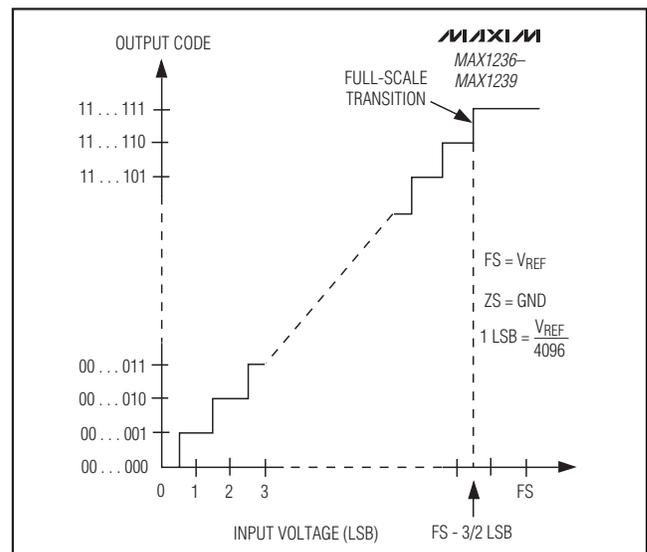

Figure 12. Unipolar Transfer Function
Output data coding for the MAX1236–MAX1239 is binary in unipolar mode and two's complement in bipolar mode with 1 LSB = (V_{REF}/2^N) where “N” is the number of bits (12). Code transitions occur halfway between successive-integer LSB values. Figures 12 and 13 show the input/output (I/O) transfer functions for unipolar and bipolar operations, respectively.